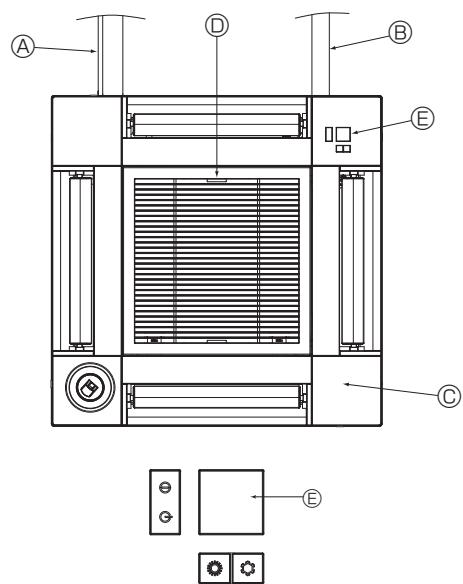

Fig. 5-18
5.5. Installing the intake grille (Fig. 5-18)
⑧ Refrigerant piping of the main unit
⑨ Drain piping of the main unit
⑩ Corner panel
⑪ Position of the levers on the intake grille when sent from the factory.
⑫ Receiver (for PAR-SF9FA-E)